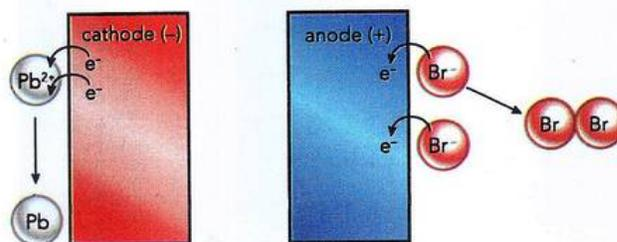

Figure 6.7: At the cathode, metal ions gain electrons. At the anode, non-metal ions lose electrons.
The movement of ions to the different electrodes during electrolysis results in the decomposition of the ionic compound. Different reactions take place at the two electrodes. Look at the electrolysis of molten lead(II) bromide in more detail (Figure 6.7). During electrolysis, the bromide ions (Br^-) move to the anode. Each bromide ion gives up (donates) one electron to become a bromine atom: